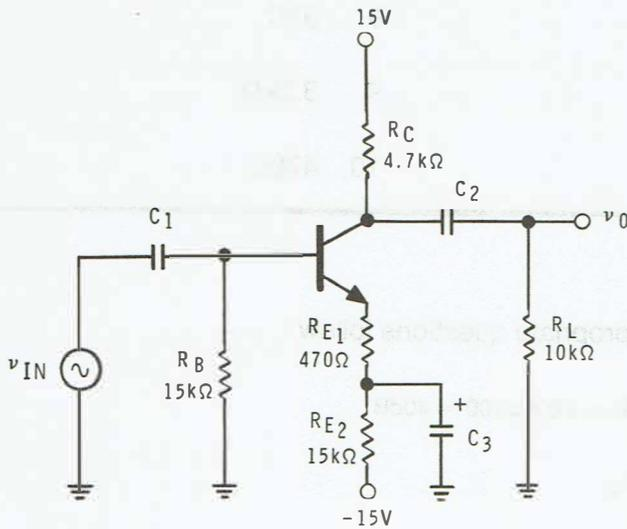

Figure 3-11
9. In Figure 3-11 the AC load resistance is _____ $k\Omega$.
10. In Figure 3-11 the AC emitter resistance is _____ Ω .